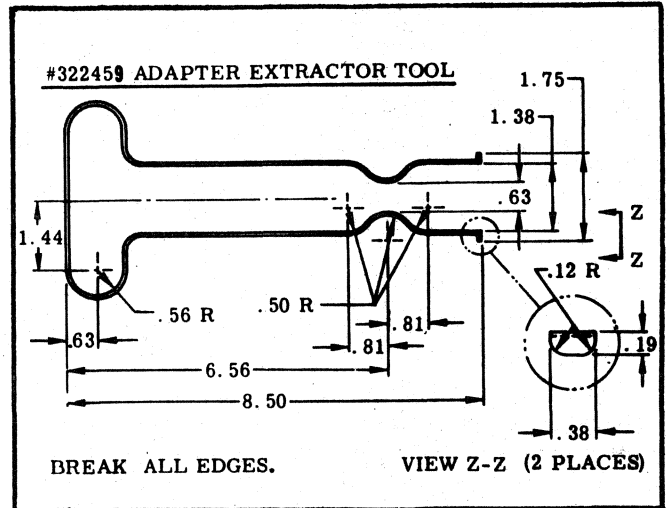

Fig. 2—Adapter Extractor Tool
The adapter extractor tool is designed to remove the hub adapter from the body after the cartridge is removed (See Fig. 2). The extractor tool engages between the ball bearing and the hub adapter.
2. Shaft End – Remove the shaft key. Carefully pull the hub adapter from the body with the adapter tool (See Fig. 2). Remove spirolox ring next to the shaft bearing from the body then tap the shaft and bearing assembly out. If it is necessary to remove the small snap ring and bearing from the shaft, support the bearing inner race in an arbor press, remove snap ring and press bearing off the shaft. Remove washer and then shaft seal and wiper from the body.